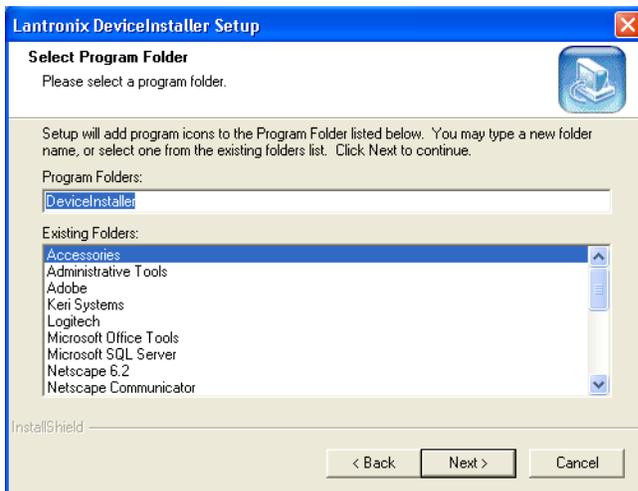

Figure 13: Select Program Folder
11. The Setup Type defaults to the Typical option. Click on the  button. The Select Program Folder window appears (see Figure 13).